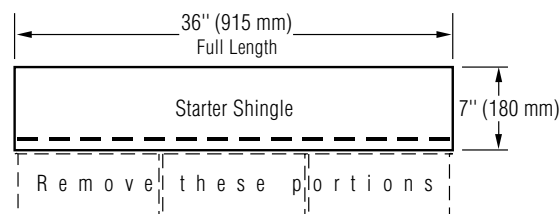

Figure 12-6: Make starter shingles by removing the lower 5" tabs.
1. Use CertainTeed Starter™ (10" x 36") or a starter course consisting of the shingles from which the lower 5" tabs have been removed (Figure 12-6). Remember, the sealant on starter courses should lie as close as possible to the eaves edge of the roof.
1. Use CertainTeed Starter™ (10" x 36") or a starter course consisting of the shingles from which the lower 5" tabs have been removed (*Figure 12-6*). Remember, the sealant on starter courses should lay as close as possible to the eaves edge of the roof.
1. Use CertainTeed Starter™ (10" x 36") or a starter course consisting of the shingles from which the lower 5" tabs have been removed (Figure 12-6). Remember, the sealant on starter courses should lay as close as possible to the eaves edge of the roof.